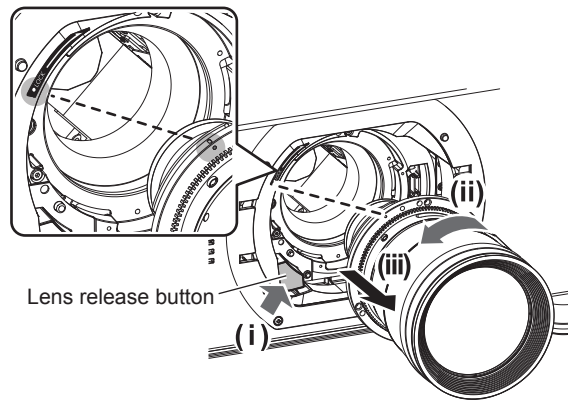

Fig. 2
**3) While pressing the lens release button, remove the projection lens by turning it counterclockwise. (Fig. 2)**